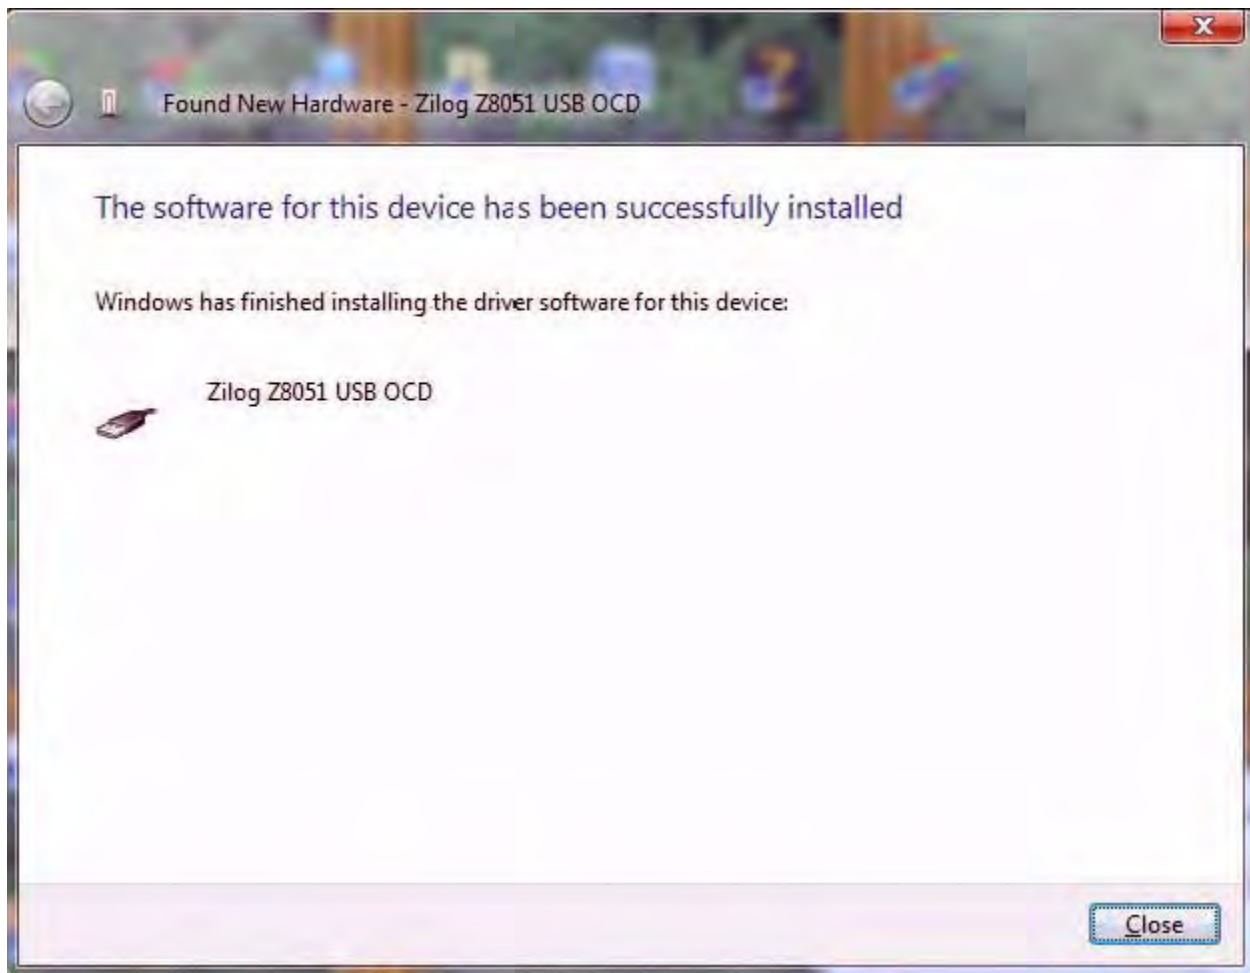

Figure 7. Successfully Installed Dialog, Windows Vista
5. When the installation is complete, the screen shown in Figure 7 will appear. Click **Close** to exit the OCD driver installation.
- **Note:** On some installations, the Found New Hardware screen shown in Figure 7 may also display the text string, Zilog Z8051 USB OCD - No Firmware. This occurrence is normal and can be disregarded.